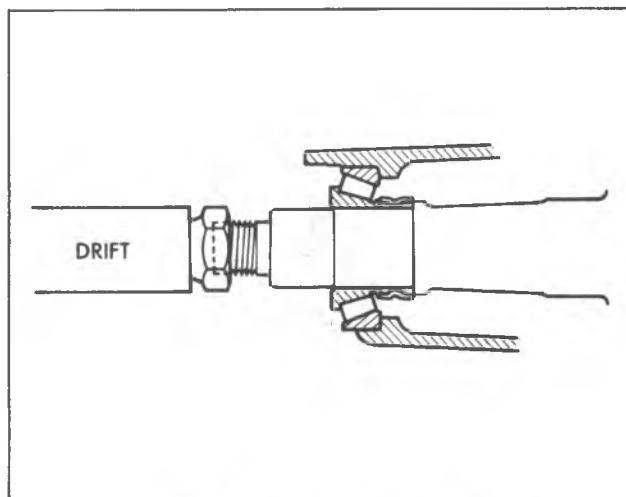

Fig. 14B-Removing Drive Pinion
8. Tap the end of the pinion nut with a large hammer and a soft drift, as shown in figure 14B.